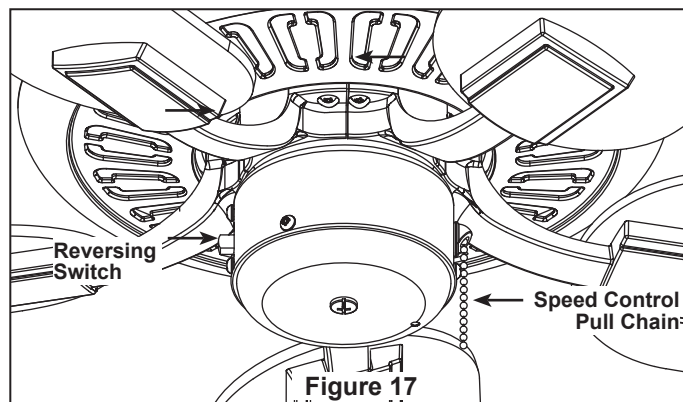

Figure 17
- 3. If airflow is desired in the opposite direction, turn the fan off and wait for the blades to stop turning. Then slide the reverse switch to the opposite position and turn fan on again. Your fan model is equipped with a 4-position, 3-speed, pull chain switch. (Figure 17)